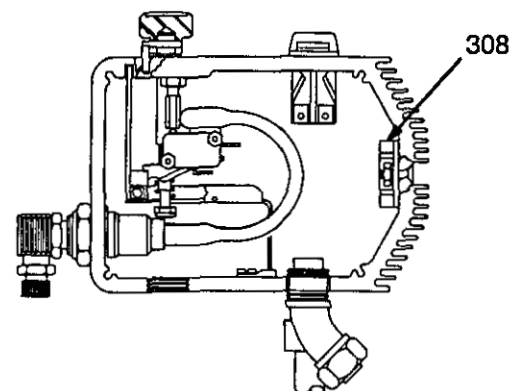

Fig. 13
Disconnect the two leads from the motor to the bridge (308). See Fig. 13.